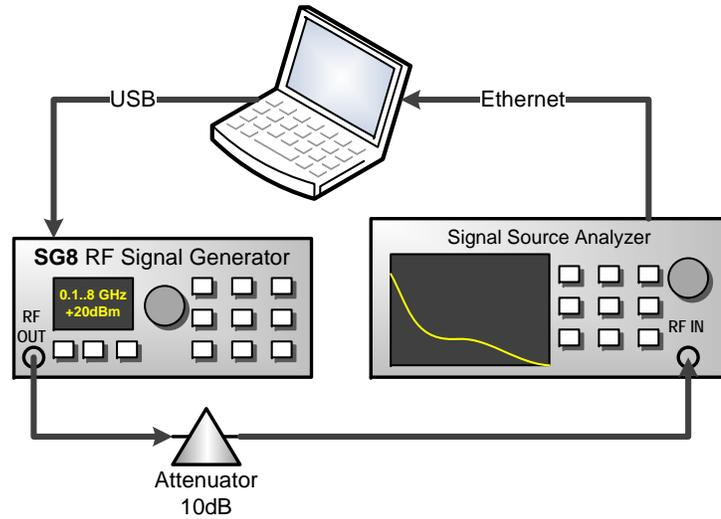

Figure 7: Phase noise test setup
1. Connect the instruments as shown in figure 7.